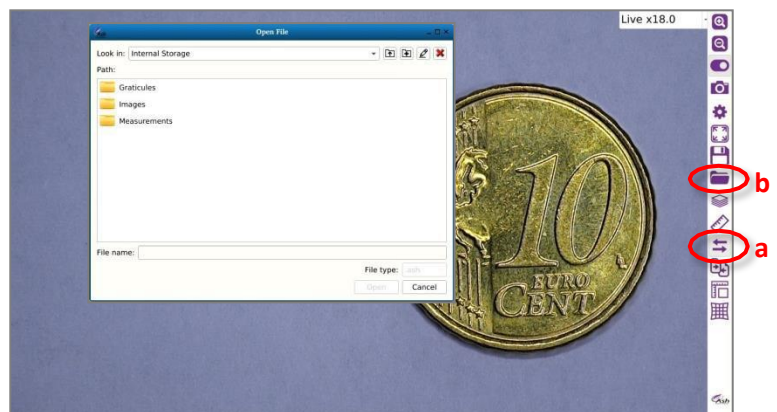

Fig. 38
- Click on the Side by Side Comparator icon (Fig. 38).